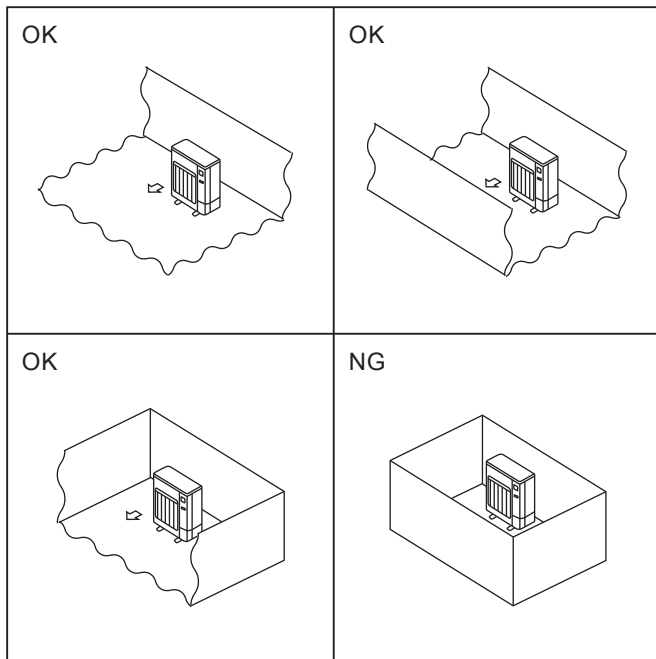

Fig. 2-1
- Ⓢ Install outdoor units in a place where at least one of the four sides is open, and in a sufficiently large space without depressions. (Fig. 2-1)